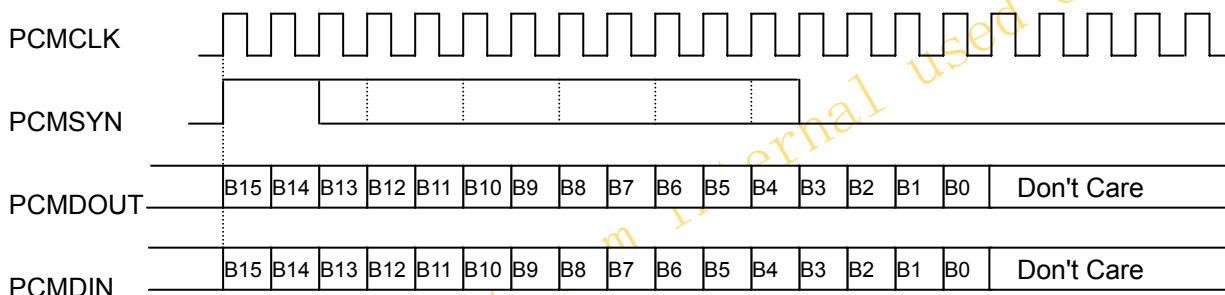

Figure 12-4 Long Frame SYN Timing (Shown with 16bit Sample)
**NOTE:** Figure 12-4 shows a PCM transfer with the MSB configured to be coincident with the PCMSYN.